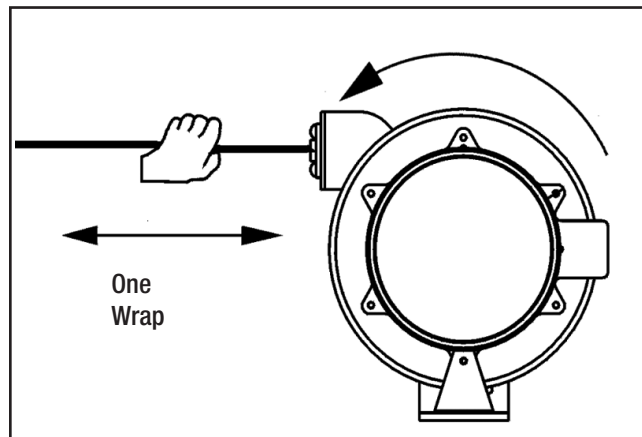

Figure 12-3
- Repeat steps, if necessary, to add tension. To decrease tension, rotate drum and cable counter-clockwise. See **Figure 12-3**.